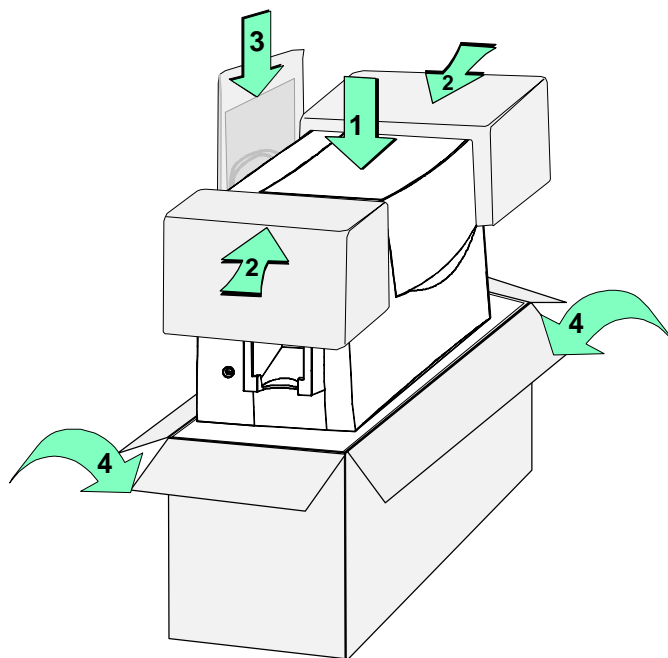

Figure 5-5: Pack a Select printer for shipping
- 11 Place the printer in the shipping carton, resting in the shipping supports (step 1 in Figure 5-5).
- 12 Place the "Top Front" and "Top Rear" shipping supports in place (step 2 in Figure 5-5).
- 13 Place the accessories bag in the shipping carton next to the printer (step 3 in Figure 5-5).
- 14 Close the shipping carton (step 4 in Figure 5-5).